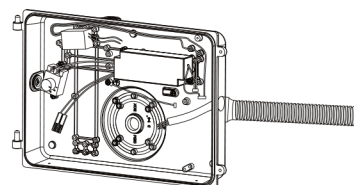

Fig. 2-3A
- Make wiring connection from side and go through isolation treatment; Tighten the pipe on the luminaire. (Fig. 2-3A&B)